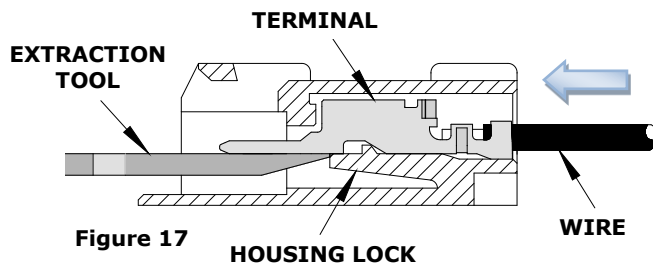

Figure 17
1. Push the terminal forward in the arrow direction before using the extraction tool. Insert the extraction tool into the slot on the side of the connector housing as shown in Figure 17.